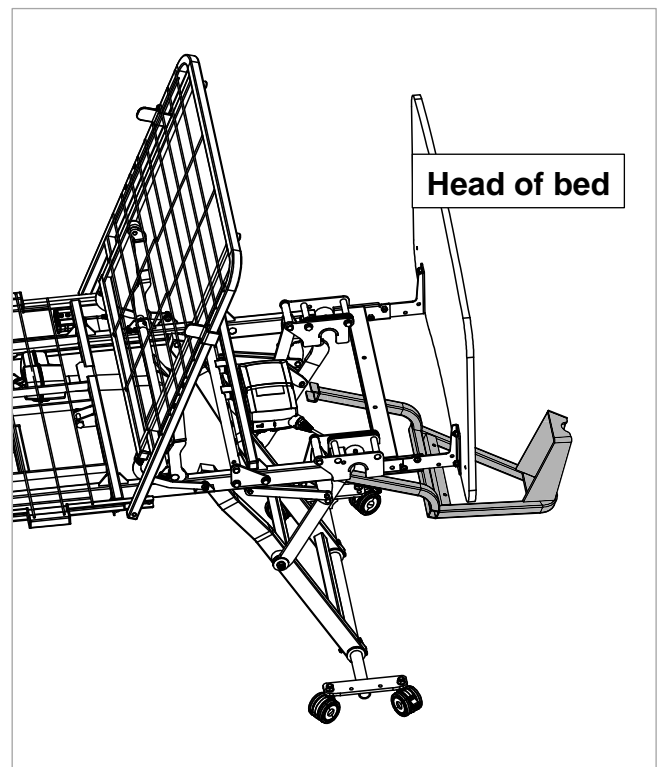

Figure 7.2
2. The Lifting Pole Bracket is fitted from under the bed. For ease of fitting, ensure the back rest is elevated as shown in Figure 7.2.